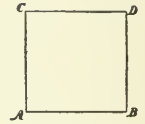

Fig. 609
16. *To describe a square on a given line AB* (Fig. 609).—Make the angle CAB a right angle, and AC equal to AB. Draw CD and BD parallel to AB and AC, and ABDC is the square required.